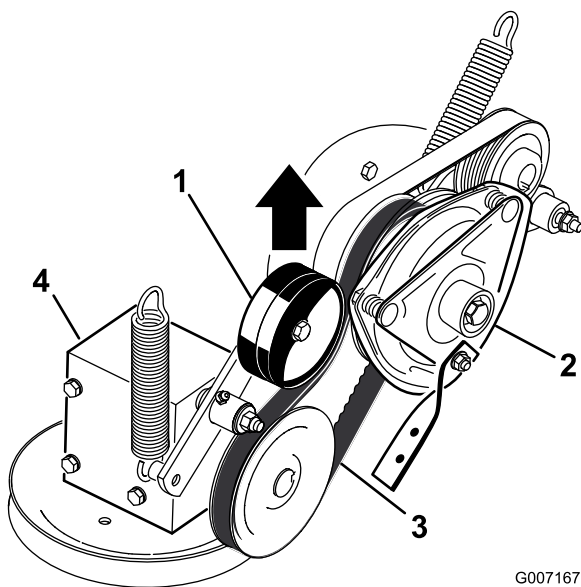

Figure 7
5. Pull up on the spring loaded idler pulley for the PTO drive belt and remove the belt from the clutch pulley (Figure 7).
17. Pull up on the spring loaded idler for the PTO drive belt and install it onto the clutch pulley (Figure 7).